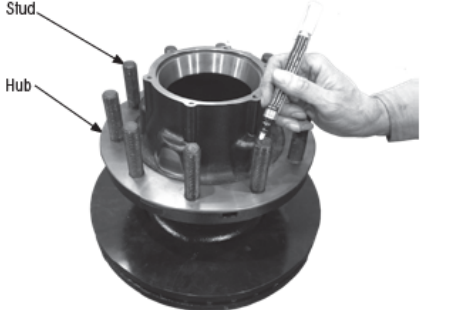

Figure 9: Identifying old studs
- 1. Place the hub and rotor assembly on a sturdy surface with the studs facing up (Figure 9).